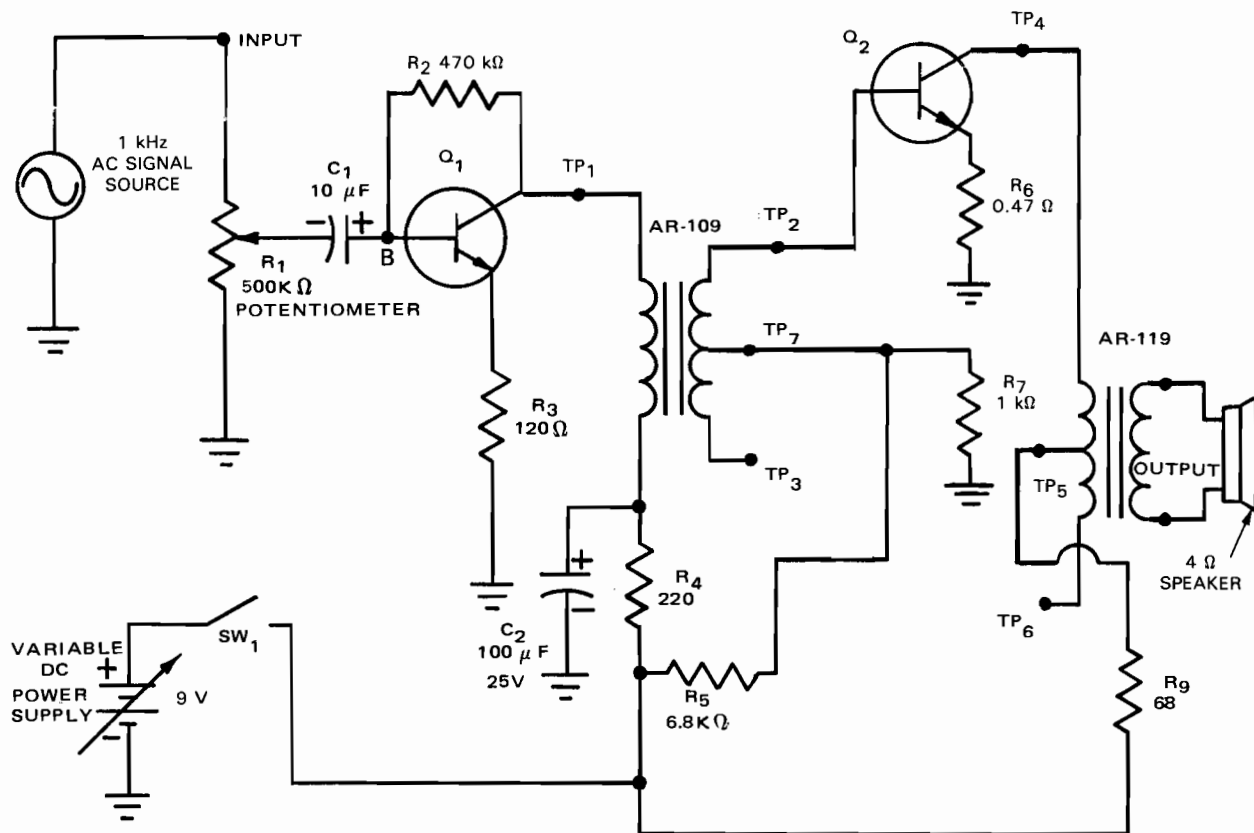

Fig. 16-4-1
1. Connect transformer-coupled amplifier circuit shown in Fig. 16-4-1.